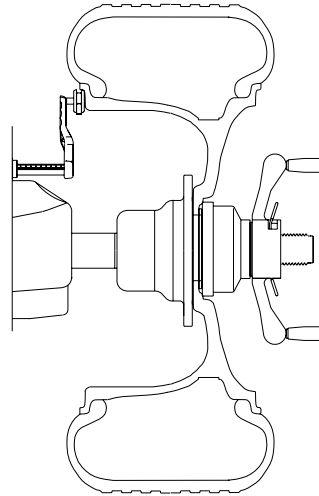

Figure 22
**4.5.1 Rim Distance (offset)** - Move the rim offset arm to the edge of the rim, touch the pointer to the rim edge as illustrated in Figure 22 and hold steady for about a second. The beeper will sound when the distance and diameter values are calculated and entered. Return the arm to its fully in and down position on the balancer. Do not allow the measurement arm to "dangle" down in front of the balance